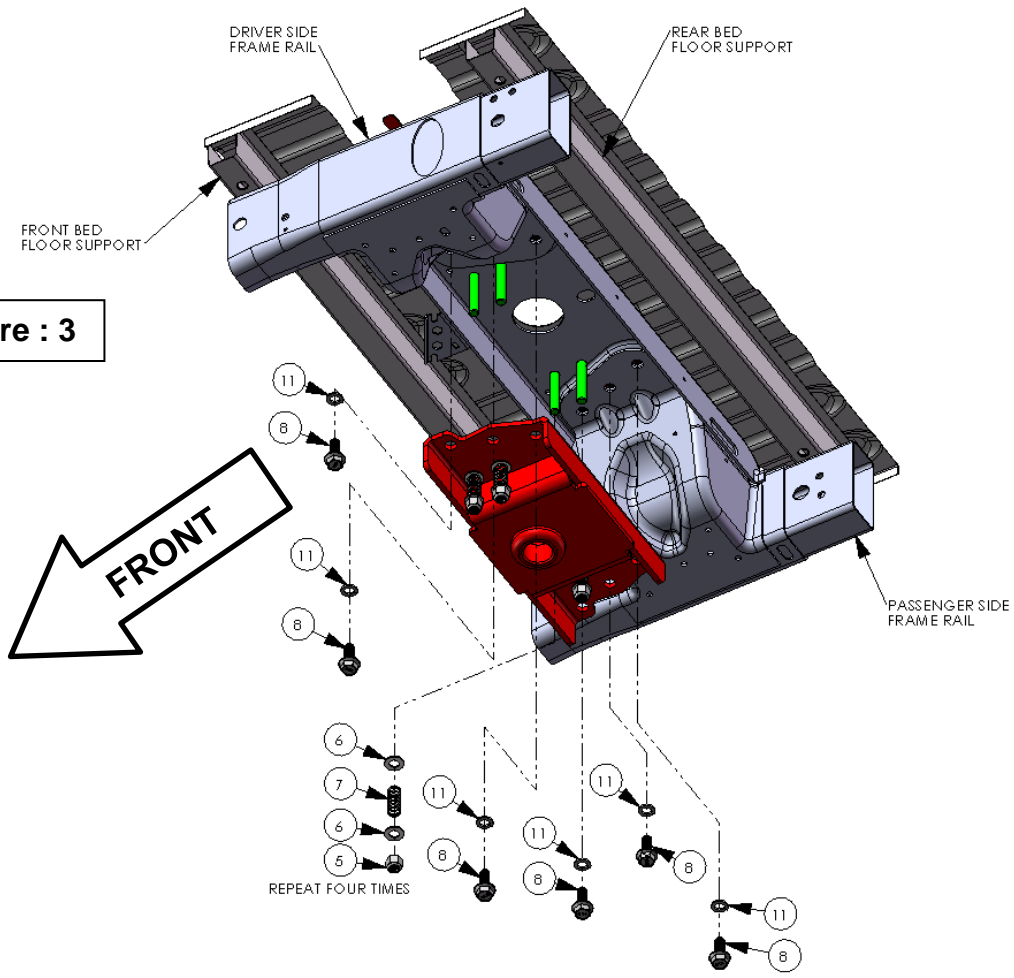

Figure : 3
- Using an extra set of hands lift center section (#1) into place and tighten six flange head bolts (#8) with six M16 lock washers (#11) until center section (#1) is completely seated against the bottom of the cross member with center section cup through the hole in the cross member as well as the floor of the truck bed. (See Figure 3). **Note: For best towing performance, ensure center section is square to the cross member and frame rails of the truck before tightening bolts down.**